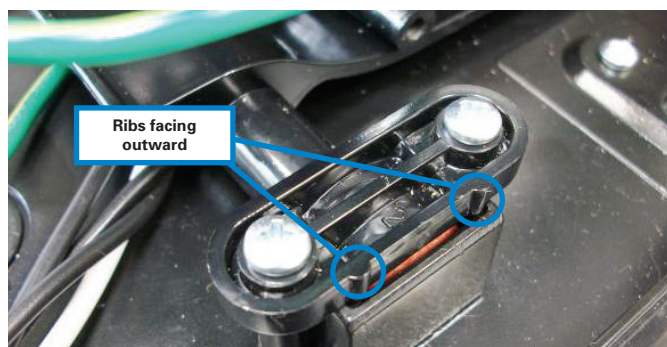

Figure 2-10
Step 2-7. Reinstall the **two (2)** screws and plastic housing retainer onto the foot of the dryer removed in Step 2-5. Make sure that the ribs on the housing retainer are facing outward (facing away from the dryer - **Figure 2-10**).